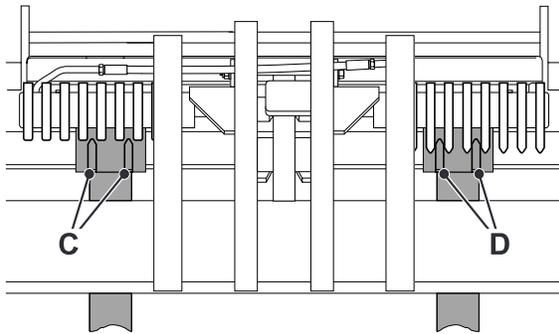

Fig 339. View from Rear of Carriage
- 1 Raise the boom and tilt the carriage forward until both left **C** and right **D** forks disengage from the cylinder. ⇒ Fig 339. \(□ 336\).